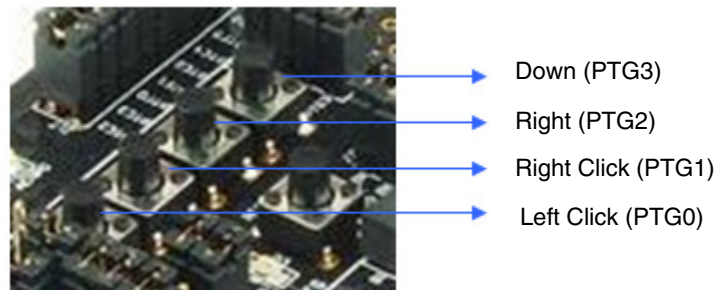

Figure D-4. HID device push buttons
3. After the HID device is installed, it can be moved on the host computer screen by pressing the push buttons. Figure D-4 shows the function of these buttons.